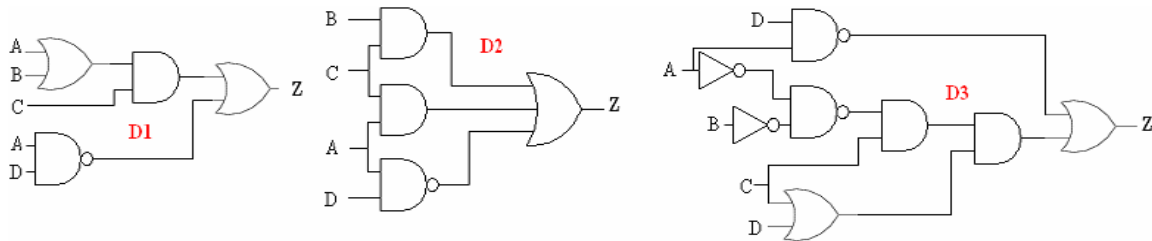

Figure 7.1
7. Three different designers (D1, D2, D3) implemented the same logic function with different circuit topologies as shown in Figure 7.1 (A, B, C, D are the inputs and Z is the output). They used cells from a standard library for which the area and delay numbers are provided (refer to Table 7.1). (W_{total} is a measure of the total area of these devices).